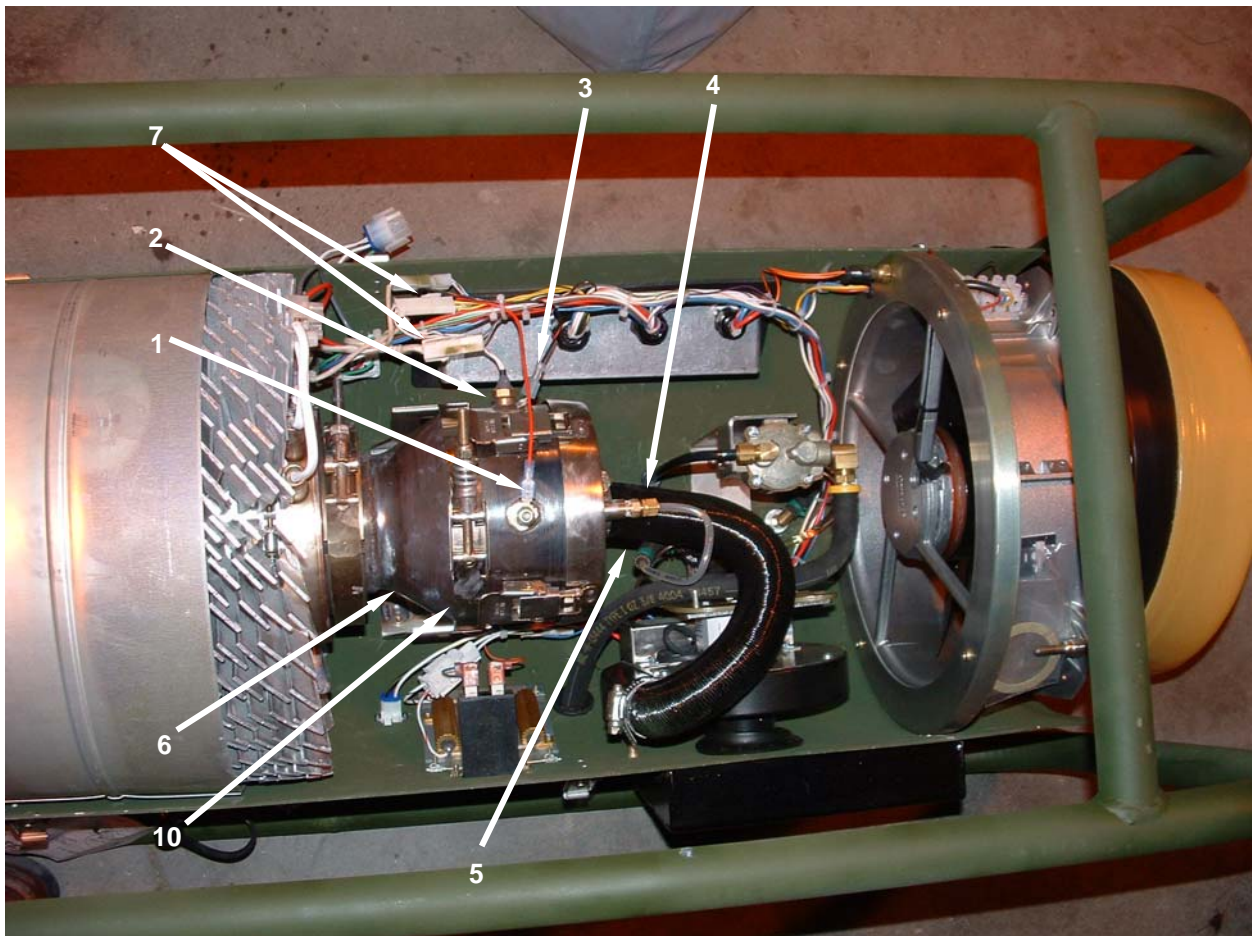

Figure 1. Remove Heat Exchanger .
3. Tag and disconnect the glow plug wire (**Figure 1, Item 1**), flame sensor connector (**Figure 1, Item 2**), ground wire (**Figure 1, Item 3**), fuel line (**Figure 1, Item 4**), and combustion air blower hose (**Figure 1, Item 5**) from the burner assembly (**Figure 1, Item 6**).
4. Tag and disconnect the two TEG electrical connectors (**Figure 1, Items 7**).